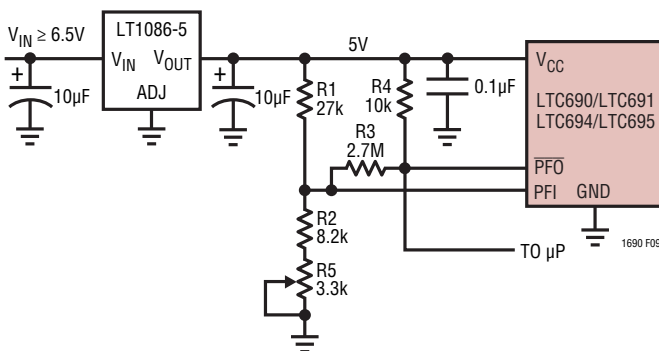

Figure 9. Monitoring *Regulated* DC Supply with the LTC690's Power-Fail Comparator
**Example 2:** The circuit in Figure 9 can be used to measure the regulated 5V supply to provide early warning of power failure. Because of variations in the PFI threshold, this circuit requires adjustment to ensure the PFI comparator trips before the reset threshold is reached. Adjust  $R5$  such that the  $\overline{\text{PFO}}$  output goes low when the  $V_{\text{CC}}$  supply reaches the desired level (e.g., 4.85V).